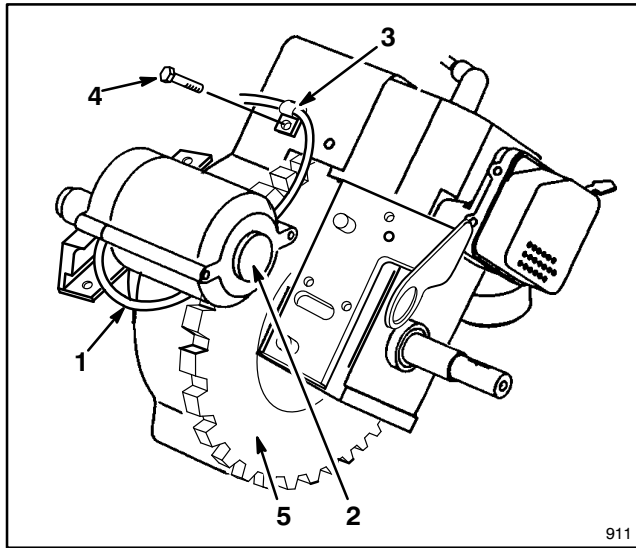

Figure 9
9. Before installing new motor, route electrical wiring **under** motor as shown in Figure 9.
10. Slide boss on right end of motor (Fig. 9) into hole in bracket and then seat left side of motor onto bracket. Secure motor with (2) two 6 mm screws.
11. Fasten wiring cable to engine with R-clamp and screw (Fig. 9), making sure the wire routing clears the flywheel.